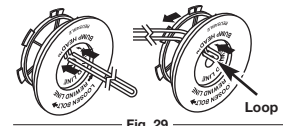

Fig. 29
- Take approximately 20 feet (6 m) of new trimming line, loop it into two equal lengths. Insert each end of the line through one of the two holes in the inner reel (Fig. 29). Pull the line through the inner reel so that the loop is as small as possible.